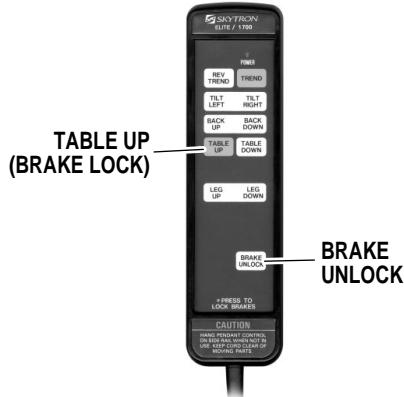

Figure 2-3. Brake System Activation
a. Floor Lock/Brake System. To activate the brakes without affecting table positioning, press the TABLE UP button. See figure 2-3. The elevation cylinder will not function until the brakes are completely extended.
Press the BRAKE UNLOCK button on the pendant control to release the four self-leveling brake feet in order to move the table. See figure 2-3. The brake delay circuit automatically retracts the brake system with just one press of the BRAKE UNLOCK button. It takes approximately 7-8 seconds to totally release the system.